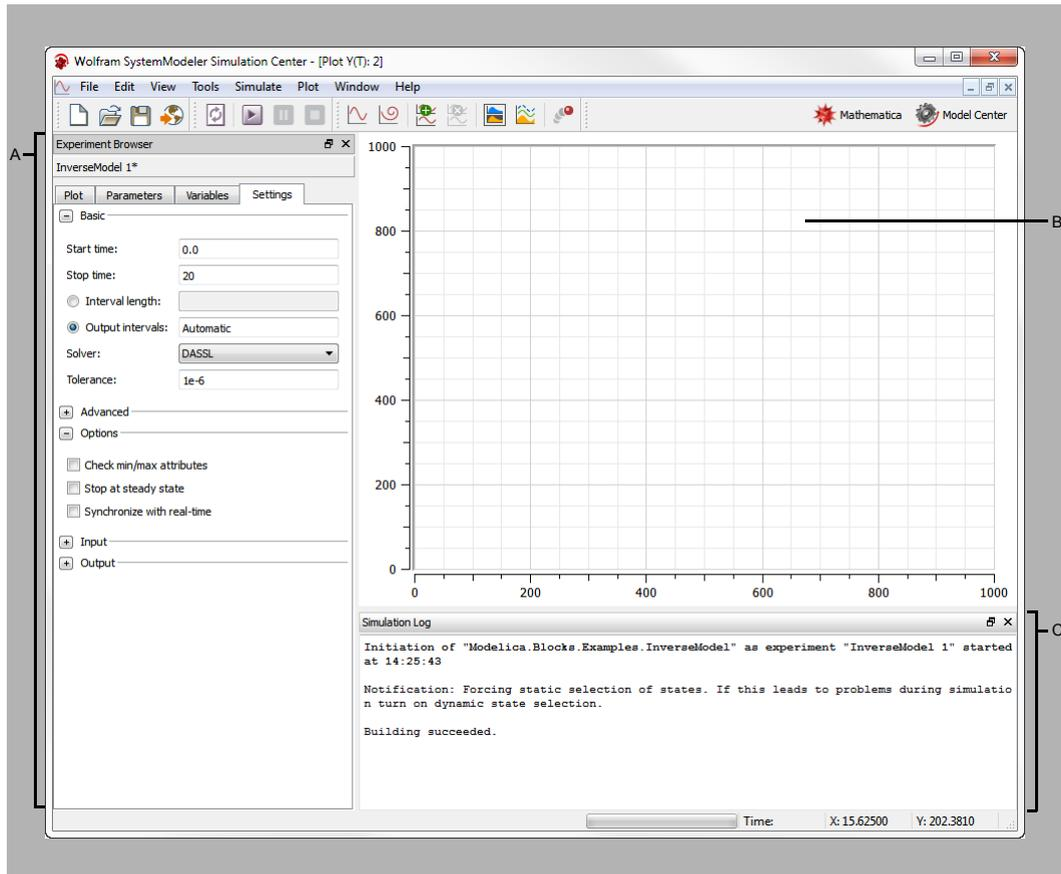

Figure 4-1: An overview of *Simulation Center*.
By default *Simulation Center* starts with three windows: the **Experiment Browser** (A), a plot window (B), and the **Simulation Log** window (C); see Figure 4-1. The **Experiment Browser** and **Simulation Log** window can be dragged and dropped, wherever preferred within the main window of *Simulation Center*, or outside to make windows floating. Plot windows can be dragged and dropped within the main window, but not outside.